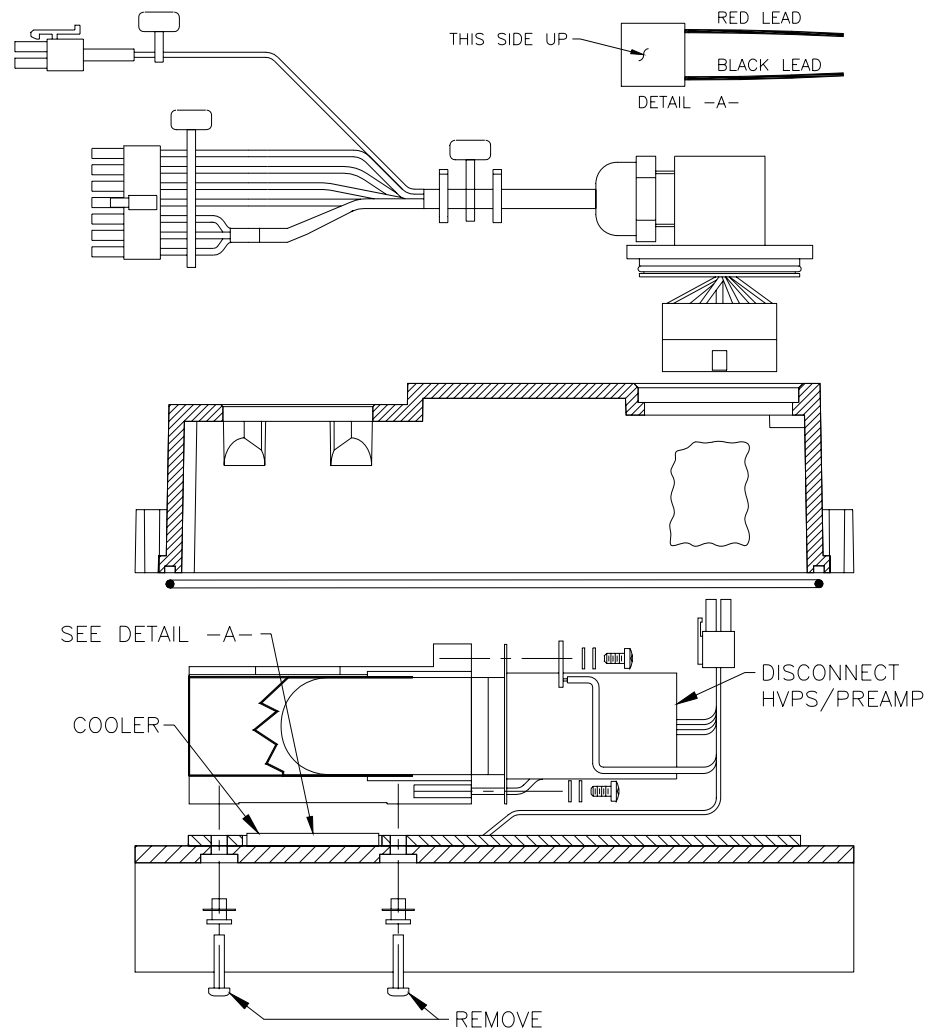

Figure 15. Cooler Replacement
5. Disconnect the HVPS/preamp from the PMT and remove the PMT from its housing. Refer to Figure 15.
6. From the underside of the heatsink, remove the two screws that secure the PMT cold block to the heatsink and remove the cold block. Refer to Figure 15.